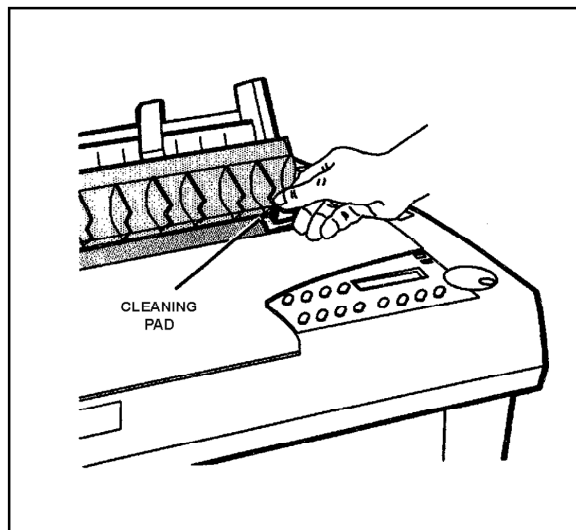

Figure 5-3. Cleaning the Platen and Bail Roller
3. Using a clean pad moistened with Fedron, wipe the rubber surfaces of the platen and bail rollers until they are dull and clean, as shown in figure 5-3. Use the Select-dial to turn the platen and the Bail button to move the bail.